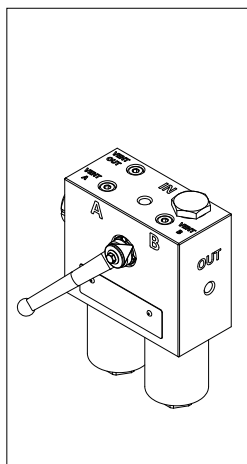

fig. 1
- (Fig. 1) Establish which filter side is in operation (WASTE SIDE) by referring to the indications on the head front. The switching lever is oriented to the side of the filter which is not in operation (NEW SIDE). The air in the system could cause vibrations, back pressure, or components damages.